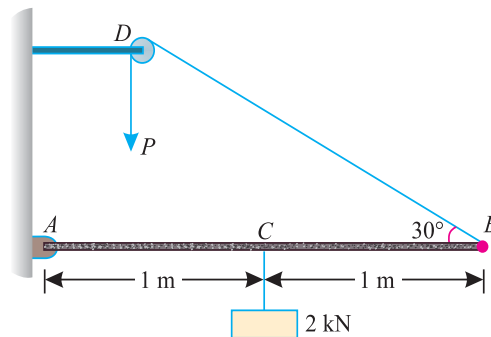

Fig. 16.20.
**Example 16.10.** A beam AB of 2 m length is held in equilibrium by the application of a force P as shown in Fig. 16.20.